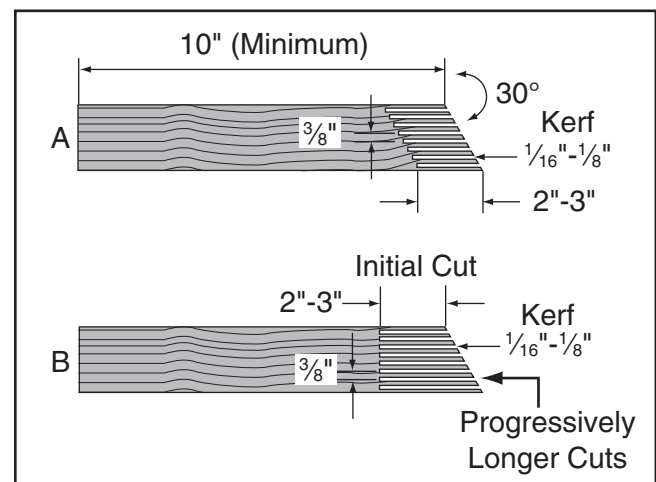

Figure 79. Patterns for featherboards (top view shown).
3. Make a series of end cuts with the grain $\frac{3}{8}$ "– $\frac{1}{4}$ " apart and 2"–3" long, as shown in **Figure 79 (A)**. Alternatively, start cuts at 2"-3" deep, then make them progressively deeper, as shown in **Figure 79 (B)**.